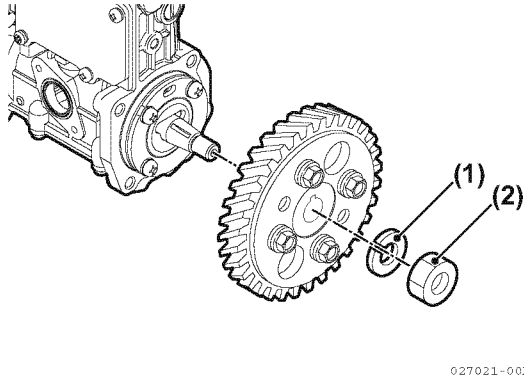

Figure 7-17
5. Reinstall the fuel injection pump drive gear lock washer (**Figure 7-17, (1)**) and nut (**Figure 7-17, (2)**). Do not lubricate threads of the nut or shaft. Hold the crankshaft pulley bolt with a socket wrench and tighten the drive gear nut to the specified torque. *See Special Torque Chart on page 7-7.*